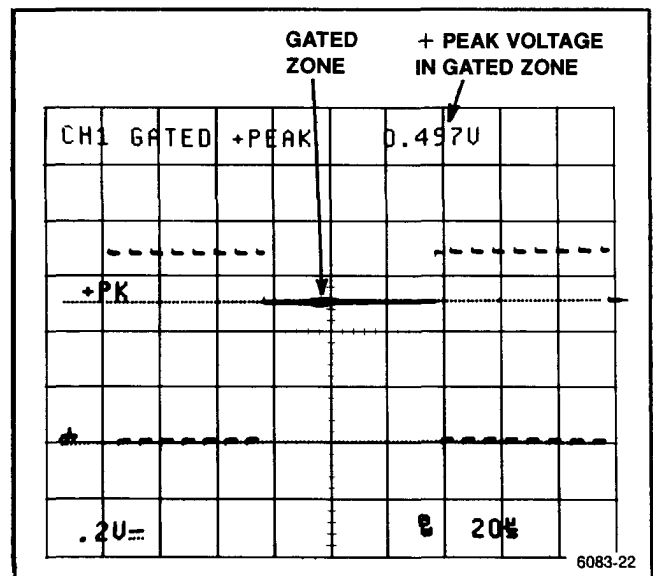

Figure 6-8. Gated voltage measurement.
3. Use the  $\Delta$  or DELAY control to position the intensified zone to the area of interest on the waveform to be tracked. (See Figure 6-8.)